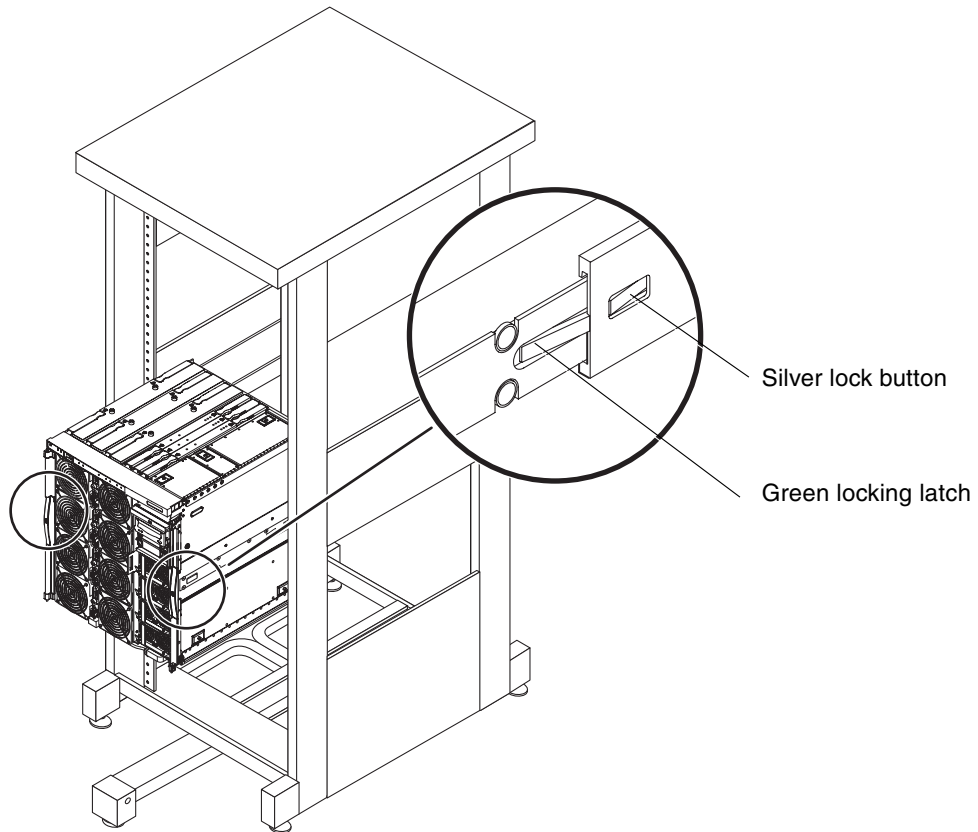

FIGURE 3-7 Sliding the System Out of the System Cabinet
6. Extend the system completely out of the cabinet until the green locking latches snap into place and the slides lock into the fully extended position (FIGURE 3-7).
9. With the lifting device fully supporting the weight of the system, press the silver slide lock buttons (FIGURE 3-7) on the right and left slide assemblies. Pull the system away from the cabinet.
9. Press the green latches on each slide and push the system into the cabinet (FIGURE 3-7).